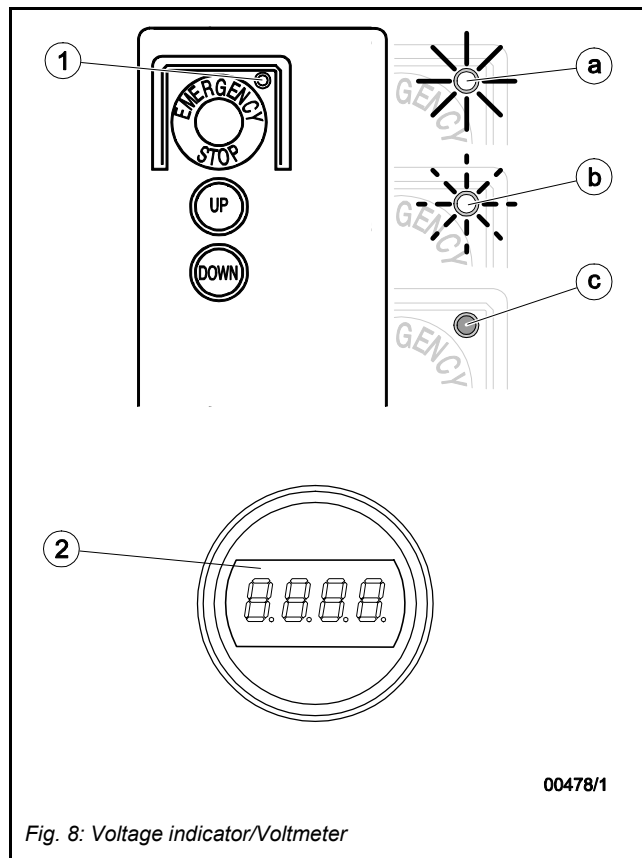

Fig. 8: Voltage indicator/Voltmeter
Where supplied, check the Voltmeter (2) or the Voltage Indicator Light (1) (see Fig. 8).